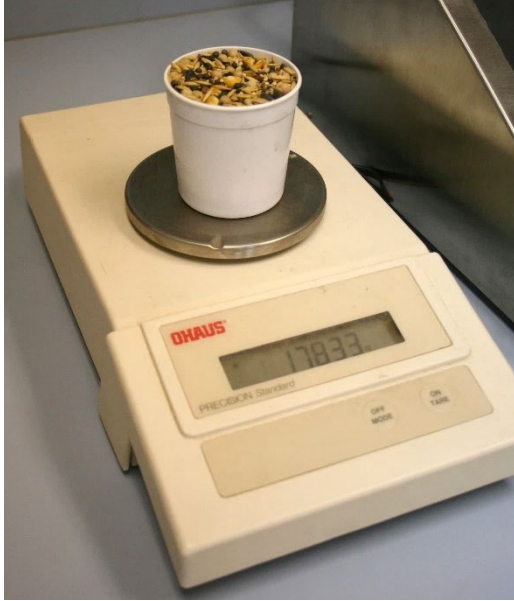

Figure 4. A gram scale can be used to calculate the bushel weight of the seed mix.
1. Pour seed into a 1 cup measure and level off. Do not pack the seed into the measuring cup (Figure 4).